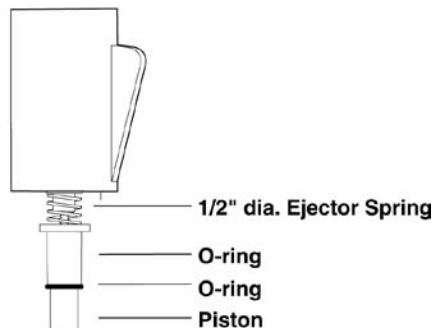

Figure F.1.3a: O-ring and piston assembly
1. Slide the 1/2" diameter spring, O-ring support, and O-ring over the piston and motor screw. (see Figure F.1.3a).